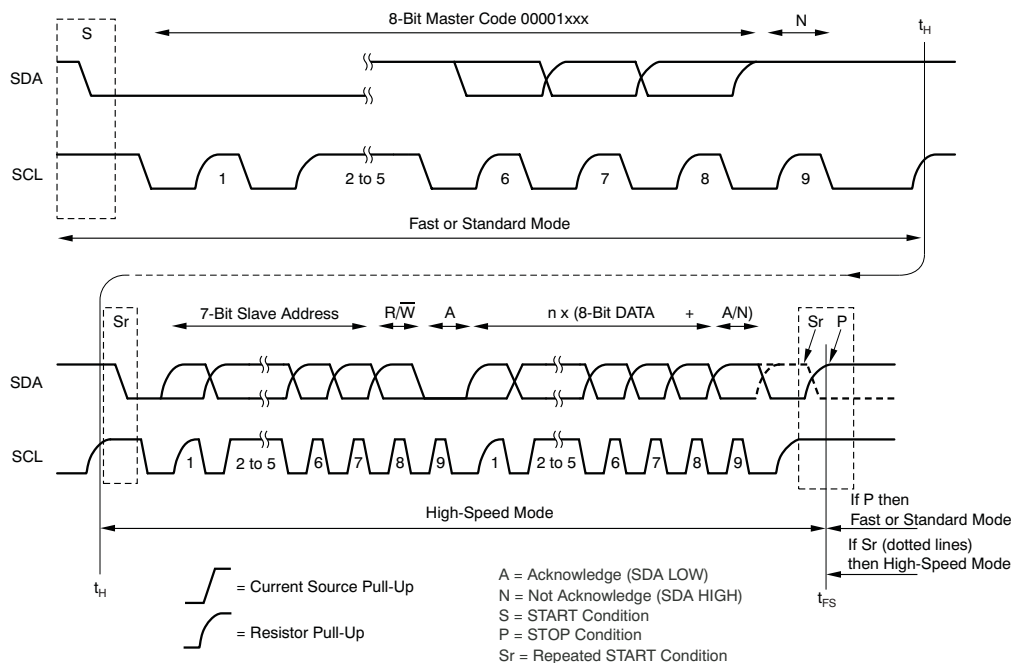

Figure 30. Complete High-Speed Mode Transfer
When the bus master sends the address byte with the  $\overline{\text{R/W}}$  bit = 0, and the TSC2007 sends an acknowledge, the pen-interrupt function is disabled. If the command that follows the address byte contains  $\text{PD0} = 0$ , then the pen-interrupt function is enabled at the end of a conversion. This action is approximately 100 $\mu\text{s}$  (12-bit mode) or 50 $\mu\text{s}$  (8-bit mode) after the TSC2007 receives a STOP/START condition, following the receipt of a command byte (see Figure 31 and Figure 30 for further details about when the conversion cycle begins).
1. START condition (S)
3. Not-acknowledge bit (N)
Figure 30 shows this sequence in more detail. Hs-mode master codes are reserved 8-bit codes used only for triggering Hs mode, and are not to be used for slave addressing or any other purpose. The master code indicates to other devices that an Hs-mode transfer is about to begin and the connected devices must meet the Hs mode specification. Because no device is allowed to acknowledge the master code, the master code is followed by a not-acknowledge bit (N).
After the not-acknowledge bit (N) and SCL have been pulled-up to a HIGH level, the master switches to Hs-mode and enables the current-source pull-up circuit for SCL (at time  $t_H$  shown in Figure 30). Because other devices can delay the serial transfer before  $t_H$  by stretching the LOW period of SCL, the master enables the current-source pull-up circuit when all devices have released SCL, and SCL has reached a HIGH level, thus speeding up the last part of the rise time of the SCL.